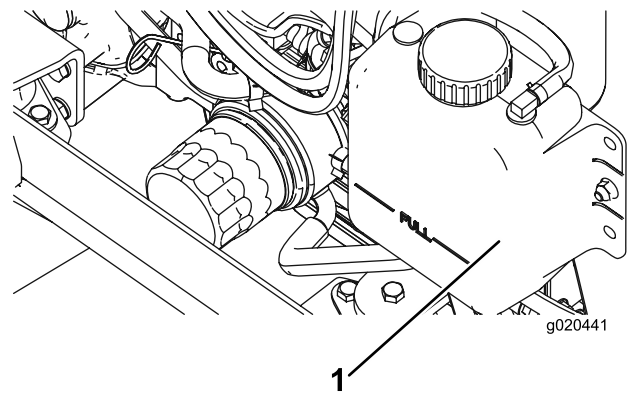

Figure 65
1. Carefully remove the radiator cap and expansion-tank cap (Figure 65).